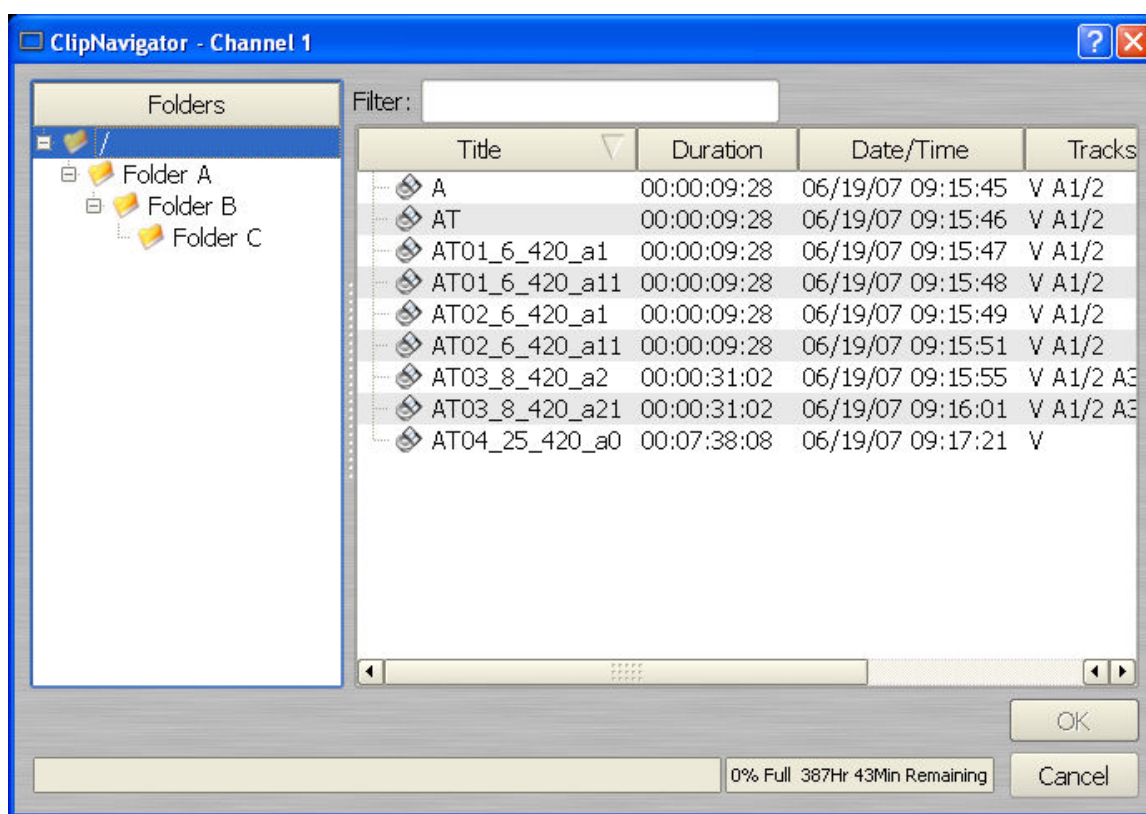

Figure 9 - Channel 1 Clip Navigator in "Open" Mode
- Select **FILE > OPEN** from the Transport Window of Channel 1, 2 or 3. The Clip Navigator will appear per Figure 9.